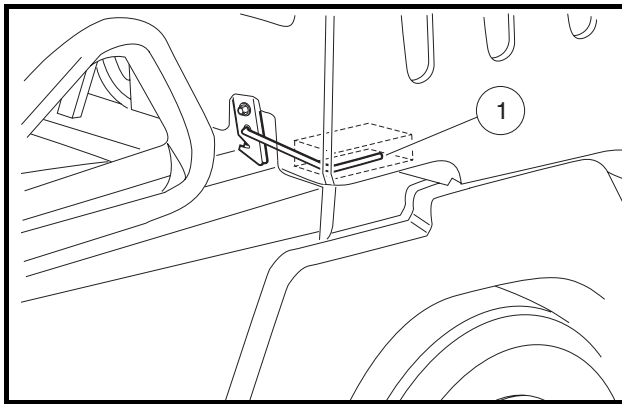

Figure 15 Bed Latch
The bed latch (1) is located under the front corners of the bed (**Figure 15, Page 24**) and engages automatically when the bed is closed. To lift the bed, pull the bed latch toward the side of the vehicle and lift the bed.